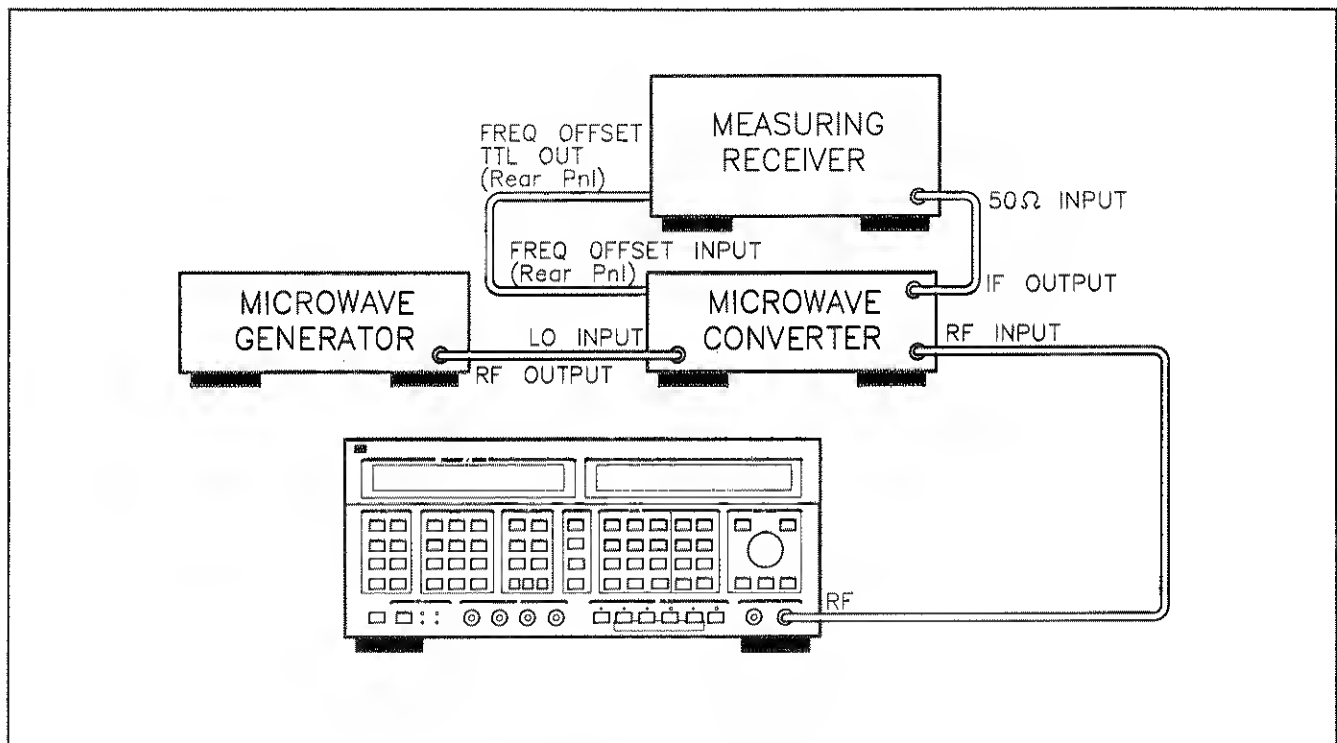

Figure 3-3. AM Test Setup
1. Connect the equipment as shown in figure 3-3.